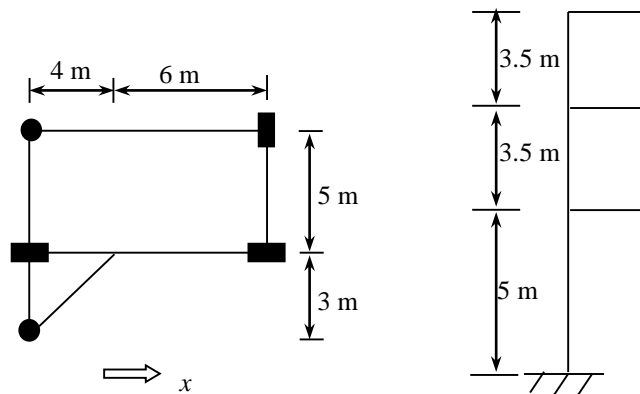

Figure 3
- (b) Figure 3 shows the plan & vertical c/s of building. Determine whether the building has vertical stiffness irregularity or not considering the lateral force along 'x' direction. Consider circular columns are of size 300 mm diameter and rectangular of size 300 mm x 460 mm as per orientation. All beams of size = 230 mm x 460 mm, slab thickness = 100 mm, LL at all levels = 3 kN/m2 and FF = 1 kN/m2, modulus of elasticity = 25000 N/mm2. **07**